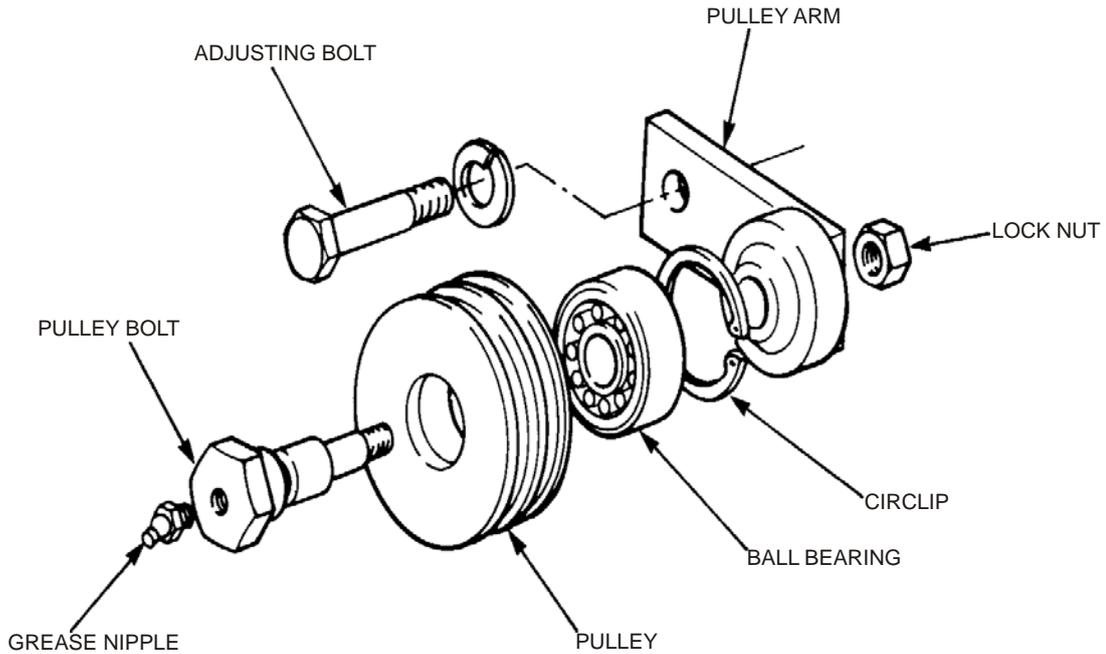

Figure 2 Jockey Pulley - Exploded View
- a. Slacken the adjusting bolt on the jockey pulley arm (Figure 2), then rotate the pulley away from the fanbelts.
- Slacken the adjusting bolt on the jockey pulley arm (Figure 2), then rotate the pulley away from the fanbelts. Detach the two belts from the alternator pulley.